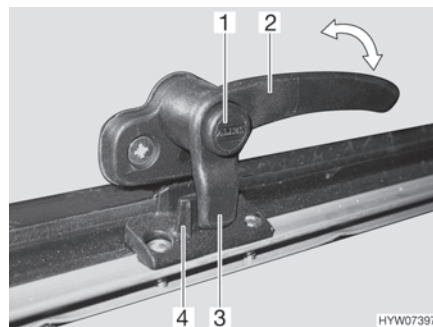
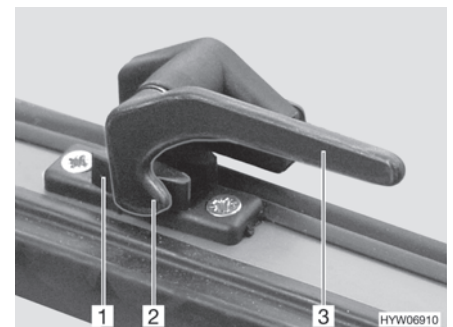

Fig. 87 Catch lever with safety knob in "closed" position
Fig. 88 Catch lever in "closed" position
- Press and hold the security button (Fig. 87,1), if present.
- Turn all catch levers (Fig. 87,2 or Fig. 88,3) a quarter turn towards the centre of the skylight.
- Turn all catch levers (Fig. 87,2 or Fig. 88,3) a quarter turn towards the frame. The locking catch (Fig. 87,3 or Fig. 88,2) is located on the inside of the skylight lock (Fig. 87,4 or Fig. 88,1).
- "Firmly closed" (Fig. 87 and Fig. 88)